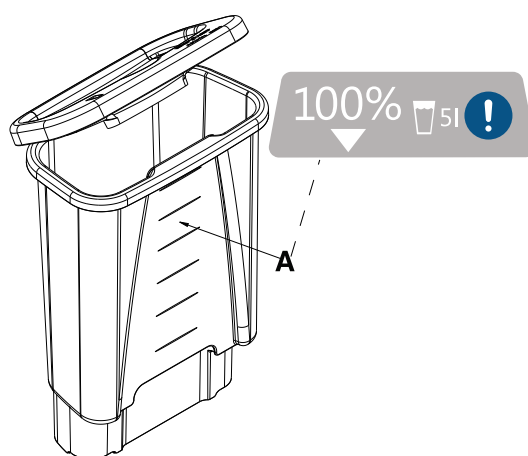

Figure 1-16: Reservoir fill lines
2. Fill the reservoir with five liters of sterile distilled water. Do not fill past the top fill line to avoid water overflow (Figure 1-16 on page 1-28).